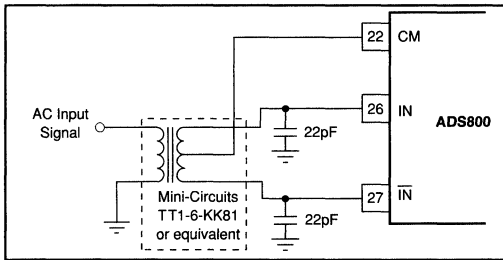

FIGURE 5. AC-Coupled Single-Ended to Differential Drive Circuit Using a Transformer.
output is created on the secondary if the center tap is tied to the common-mode voltage of +2.25V per Figure 5. This transformer-coupled input arrangement provides good high frequency AC performance. It is important to select a transformer that gives low distortion and does not exhibit core saturation at full scale voltage levels. Since the transformer does not appreciably load the ladder, there is no need to buffer the common-mode (CM) output in this instance. In general, it is advisable to keep the current draw from the CM output pin below 0.5 μ A to avoid nonlinearity in the internal reference ladder. A FET input operational amplifier such as the OPA130 can provide a buffered reference for driving external circuitry. The analog IN and $\overline{\text{IN}}$ inputs should be bypassed with 22pF capacitors to minimize track/hold glitches and to improve high input frequency performance.